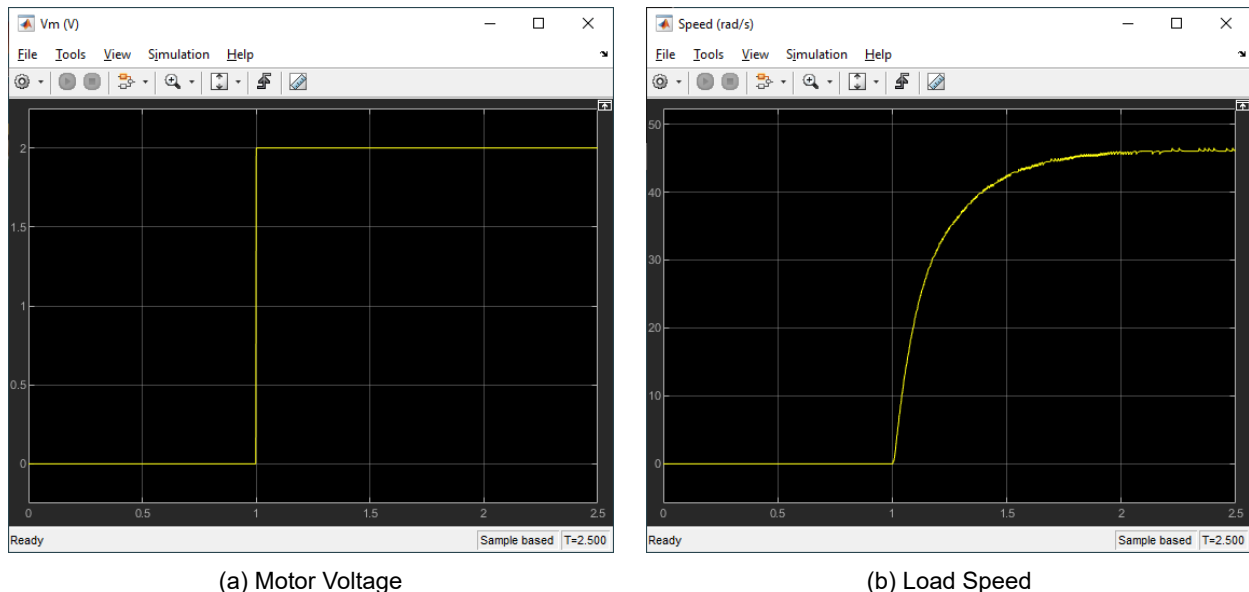

Figure 2.2: Sample QUBE-Servo 2 step response
1. Run the QUARC controller to apply a 2 V step to the servo. The scope response should be similar to Figure 2.2.